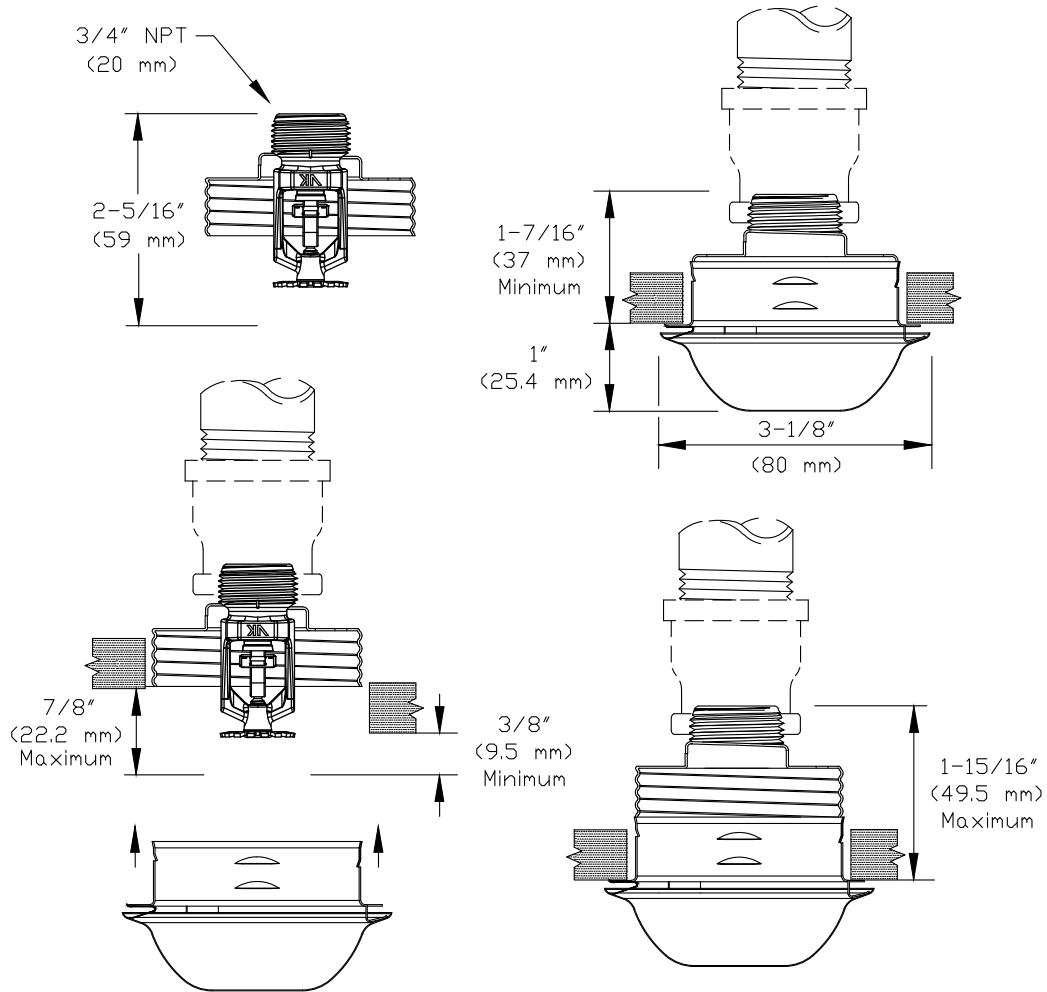

Figure 4:
- **DEFLECTOR POSITION:** Install Concealed Pendent Sprinkler VK353 with the deflector 3/8" (9.5 mm) to 7/8" (22.2 mm) below the ceiling. Refer to Figure 4.